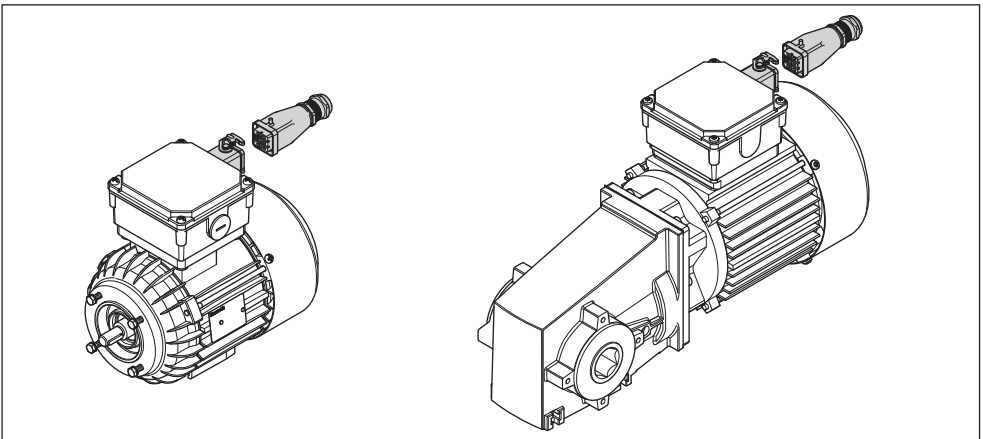

Fig. 26: Motor connection with plug (AT = S)
- Motor connection with plug (AT = S), see Fig. 26 on page 47. Observe the pre-fuse!